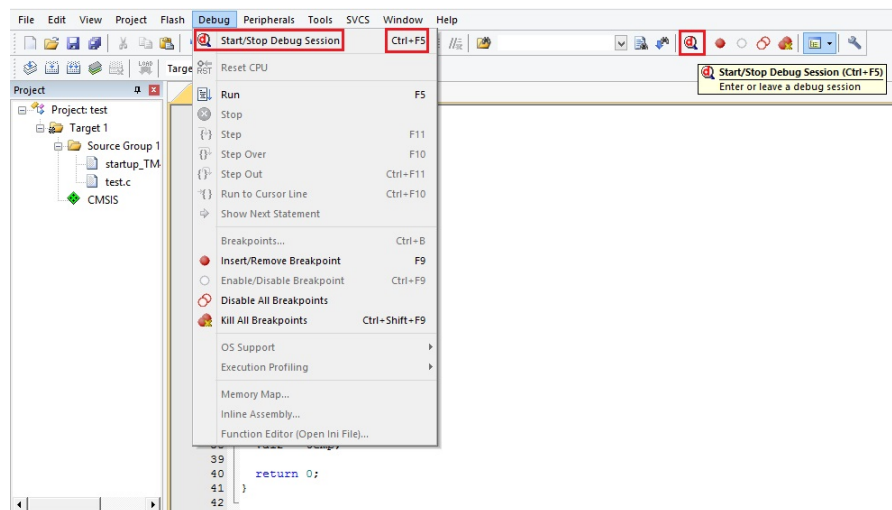

Figure 1.17: Build the project
9. After successfully building the code, you can run the program through the *Debug* menu. As shown in Figure 1.17 select the *Start/Stop Debug Session* option from the debug menu